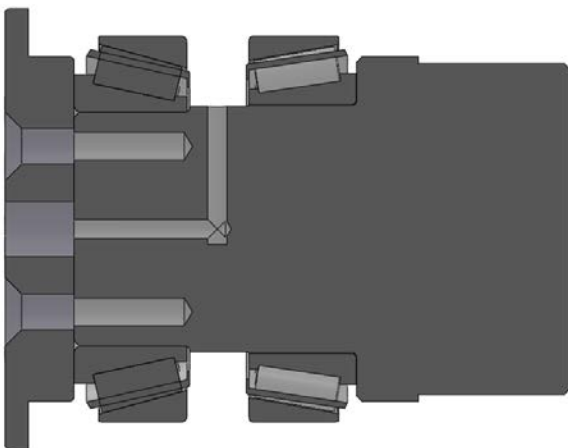

Figure 3.3.1- Position of the tapered roller
9. Push the new bearings around the shaft of the fork positioner and into the bearing housing, as shown in figure 3.3.1.